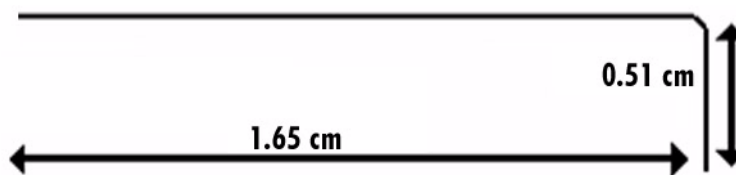

Figure 147 Pogo electrode
Contact between the working electrode (WE) on the sample plate and the sample itself is typically accomplished using the L-shaped pogo electrode included with the system (Figure 147). The pogo contacts the sample through a separate access hole outside of the liquid cell chamber. Since it is not in contact with the electrolyte it does not require special cleaning. A wire made to the same dimensions can be used in place of the pogo.